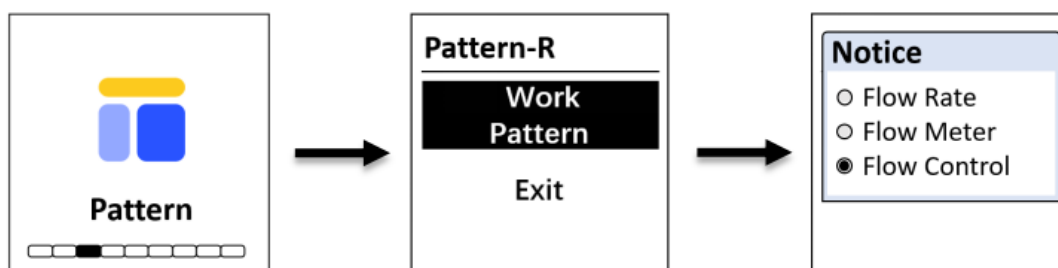

Figure. 6 - Operating Mode
When Flow Control Mode (C) is selected, a user defined flow rate setpoint must be entered (Figures 6 & 7). The FS-100 will automatically control the regulating valve according to the preset flow rate with an internally calculated PID algorithm.